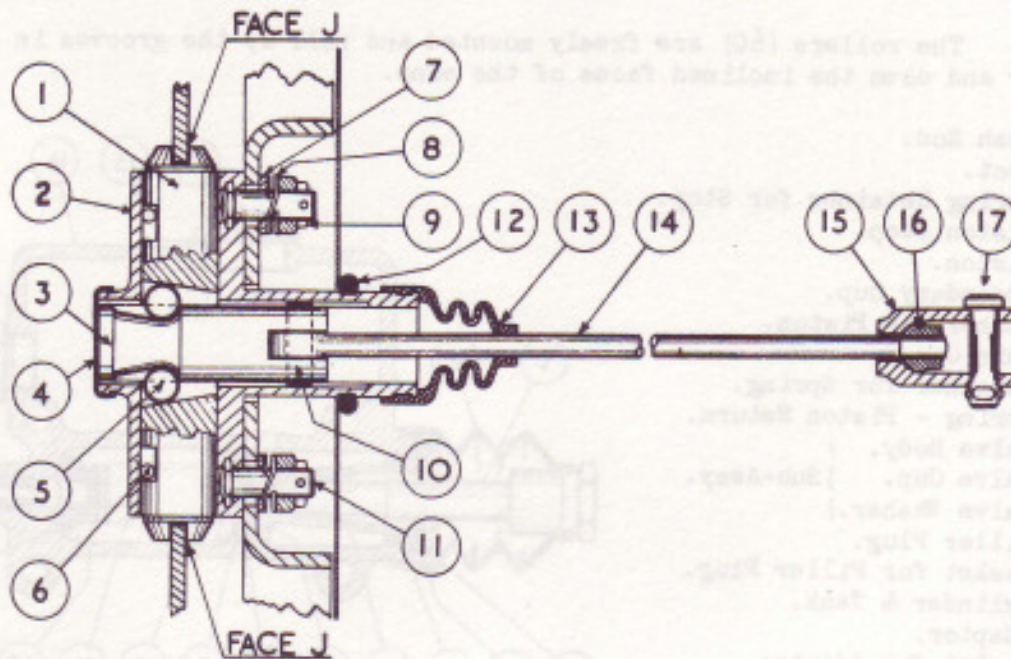

FIG. 4. SECTION THROUGH REAR EXPANDER.
The rear brake shoes are mechanically operated by an expander unit, which is slidably attached to the brake carrier plate. The expander cone (3) Fig.4 which is actuated by the pull rod (14) causes the plungers to move outwards. Hardened steel rollers (5) are interposed between the cone and the plungers to reduce friction to a minimum. The plungers engage directly with the brake shoe webs.